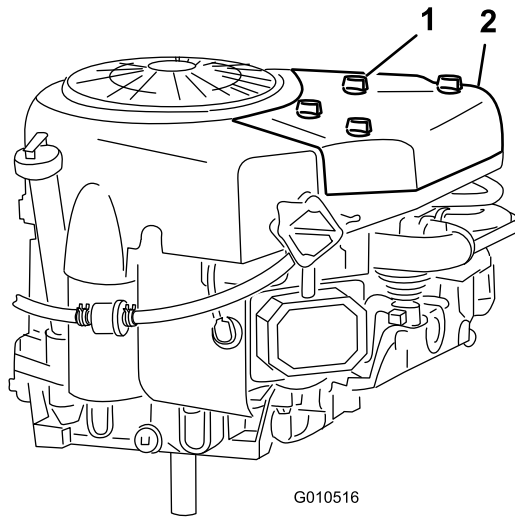

Figure 20
2. Unscrew the knobs and remove the air cleaner cover (Figure 20).
3. Install the air cleaner cover and knobs (Figure 20).